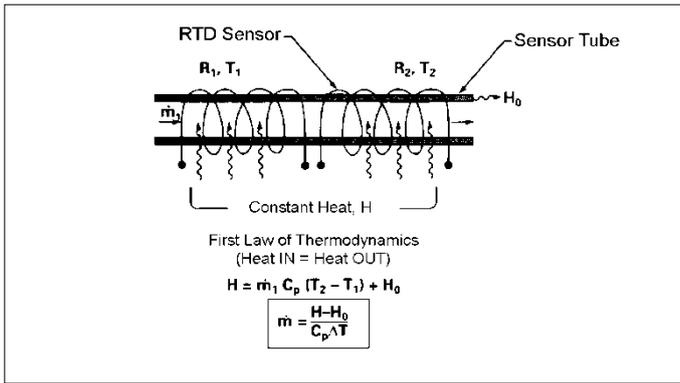
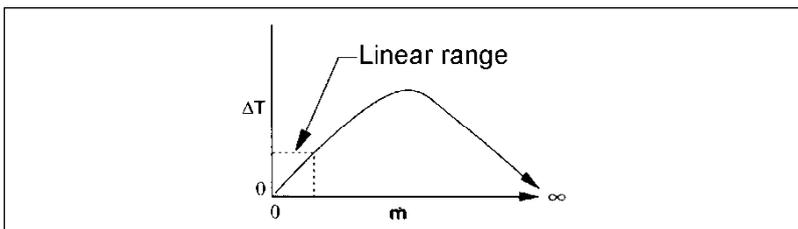

Figure 2. Flow Measuring Principle
Figure 4. Linear Range of the Transducer's Output Signal
Figures 2 and 3 show the mass flow through the sensor tube as inversely proportional to the temperature difference of the coils. The coils are legs of a bridge circuit with an output voltage in direct proportion to the difference in the coils' resistance; the result is the temperature difference ( $\Delta T$ ). Two other parameters, heat input (H) and coefficient of specific heat ( $C_p$ ) are both constant. Through careful design and attention to these parameters, this output signal is made linear over the transducer's normal operating range (Figure 4). As a result, the measured flow through the sensor tube is directly proportional to the gas flow in the main body.